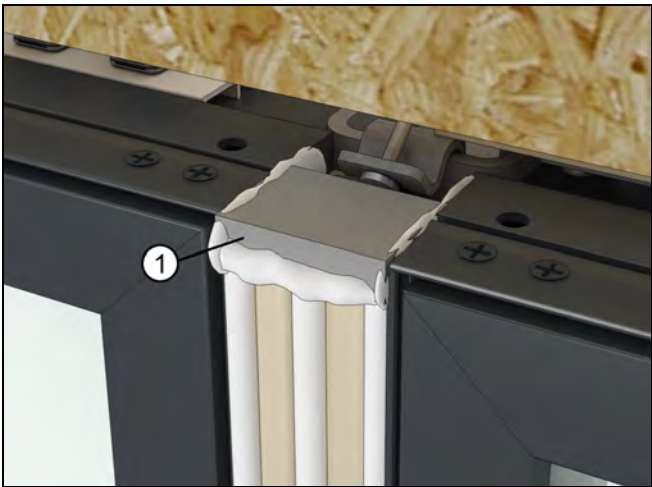

Figure 158
39. Seat foam blocks in the sealant. See Figure 158 and Figure 159.